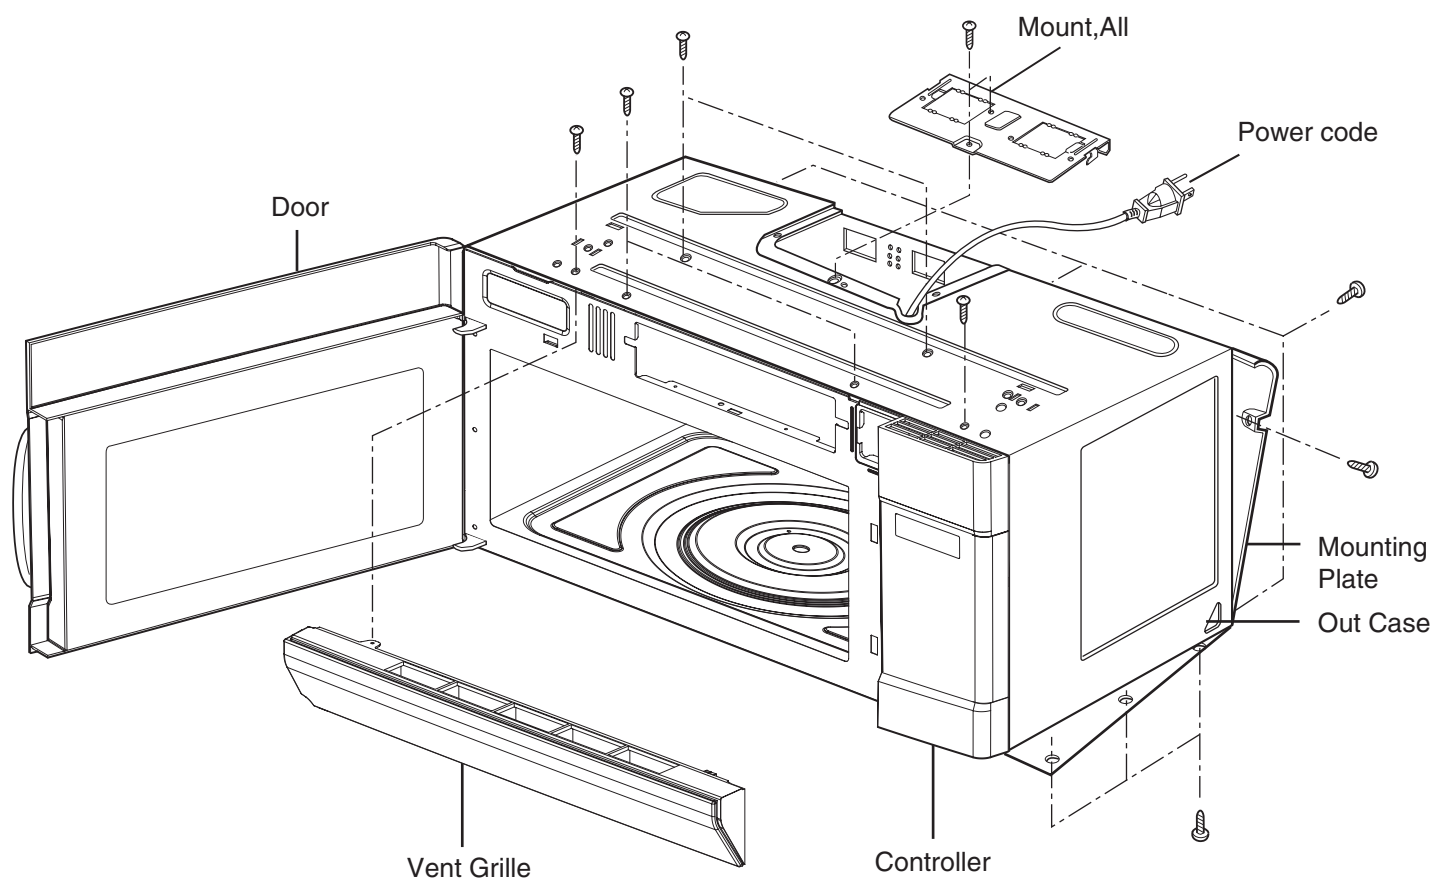

Figure 8
B. REMOVING THE OUT CASE(Figure 8)
- (1) Remove the vent grille by removing two screws securing it to the out case.
- (2) Remove two screws securing it to the front bracket.
- (3) Remove two screws securing it to the air duct.
- (4) Remove the mounting plate by turning the two screws securing it to the out case.
- (5) Remove the base plate by removing four screws securing it to the out case. Remove the Mount, All from the out case by removing two screws securing it to the out case.
- (6) Remove four screws from the rear section.
- (7) Remove the outcase with pushing it back.